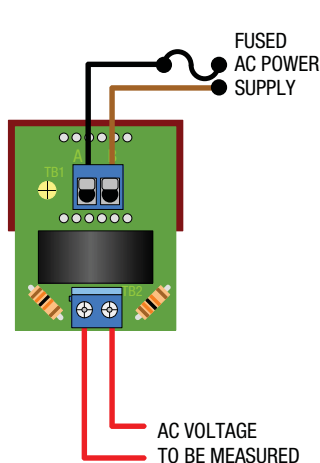
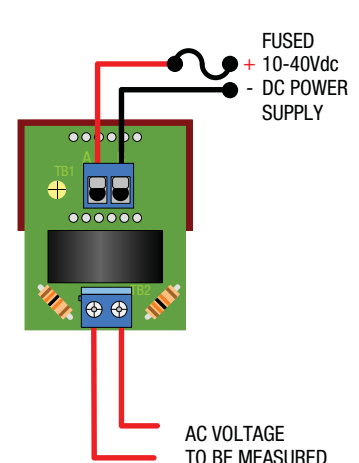

Figure 1A.
Figure 2.
- Power Supply Polarity, Fusing, and Grounding:** As shown in Figures 1A, 1B, and 2, the two power supply inputs, TB1-A and TB1-B, on ac-powered DMS-20RM voltmeters ("AC1" suffix) are not polarity sensitive, that is, they have no "AC LO" or "AC HI" designations. Also, ac-powered models do not include or require a connection to earth/chassis ground. DC-powered models ("DC2" suffix) are reverse-polarity protected, and must be connected as shown in Figure 2 for proper operation.